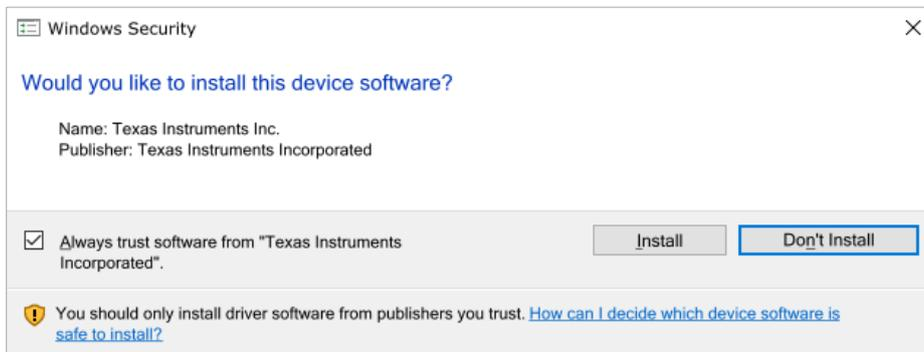

Figure 2: Driver installation
- 2.3. If the necessary USB driver by Texas Instruments is not present on the PC yet, a separate dialog opens to ask for permission (Figure 2). Please agree by clicking “**Install**”.
4. You may be asked for permission to install the drivers by the dialog window shown in Section 2.1 (Figure 2). Click “**Install**” to proceed.